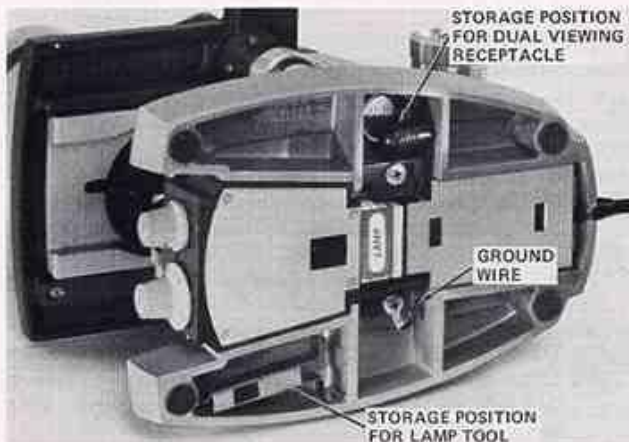

Figure 27. Properly Mounted 1031 Illuminator
4. Attach Illuminator by means of two mounting screws (supplied). Be sure to push illuminator firmly against rear of base to insure proper alignment. Attach ground wire to left screw as shown in figure 27.
Figure 27 shows the Illuminator properly mounted.
(See Figs. 27, 28 & 29)
Fig. 27 shows storage position for the dual viewing receptacle. When using 1039 or 1049 Dual Viewing Adapters, remove receptacle and draw cord out from side of microscope base so it will be free to accept illuminated-pointer power cord of Adapter.